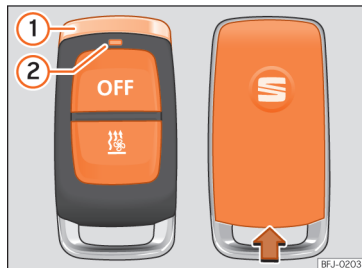

Fig. 148 Auxiliary heating: radio-operated remote control.
When the buttons are pressed, the LED of remote control »» Fig. 148 ② gives the user a range of information:
- Secure the remote control with the chrome pin »» Fig. 148 ① vertically facing upwards.
- Insert a suitable tool, e.g. a screwdriver, into the indentation in the remote control housing, in the direction of the arrow »» Fig. 148.
- Slide the cover in the direction opposite to the arrow until it clicks into place »» Fig. 148.